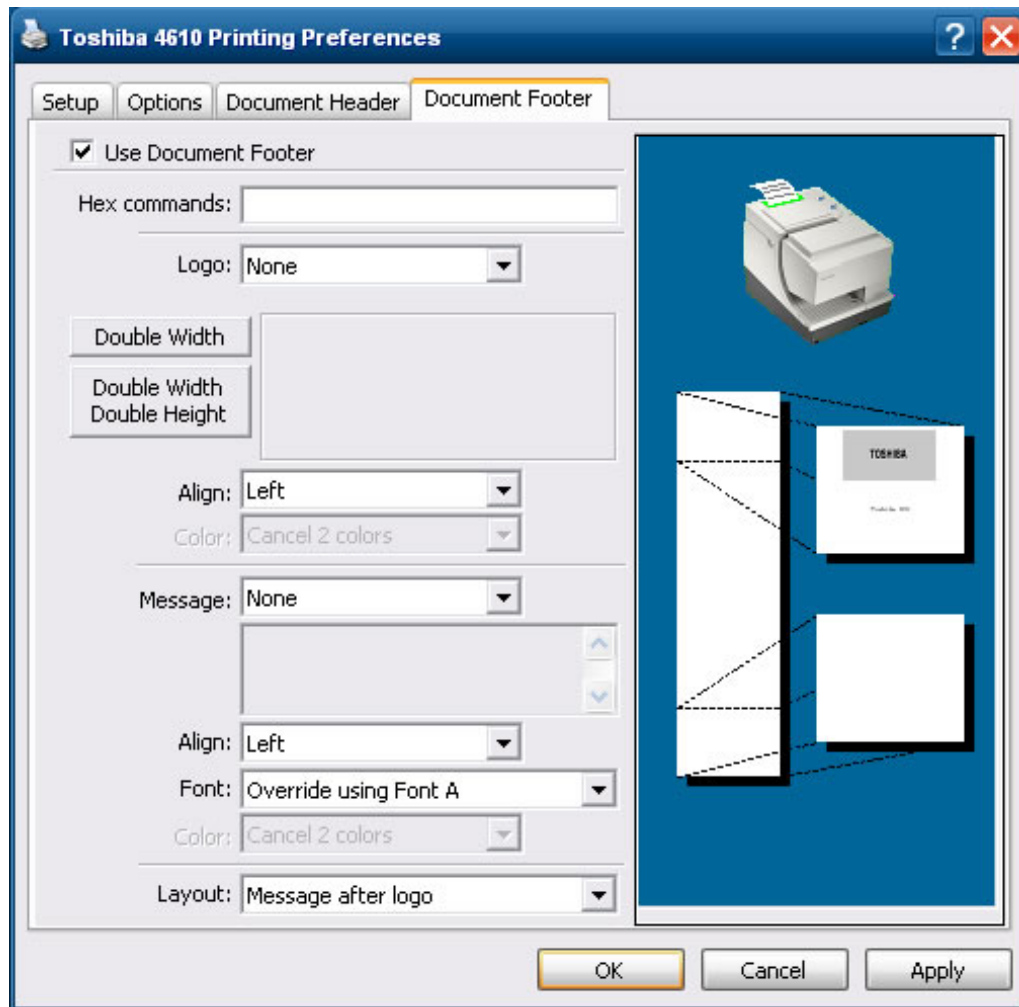

Figure 48. Document Footer tab
4. Click the **Document Footer** tab (see Figure 48).